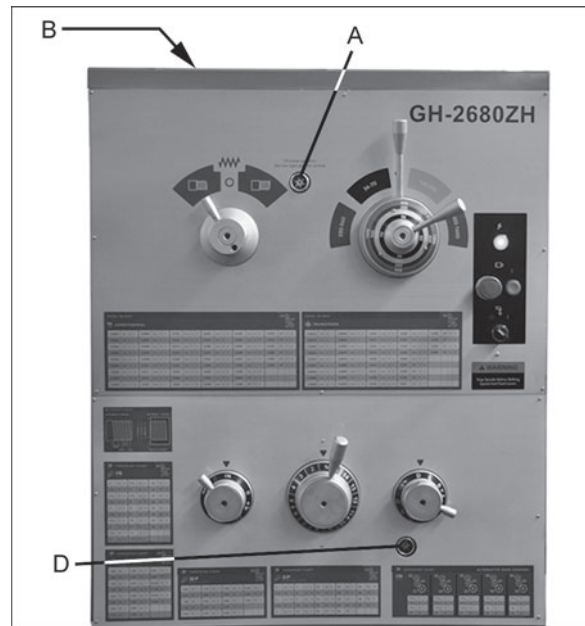
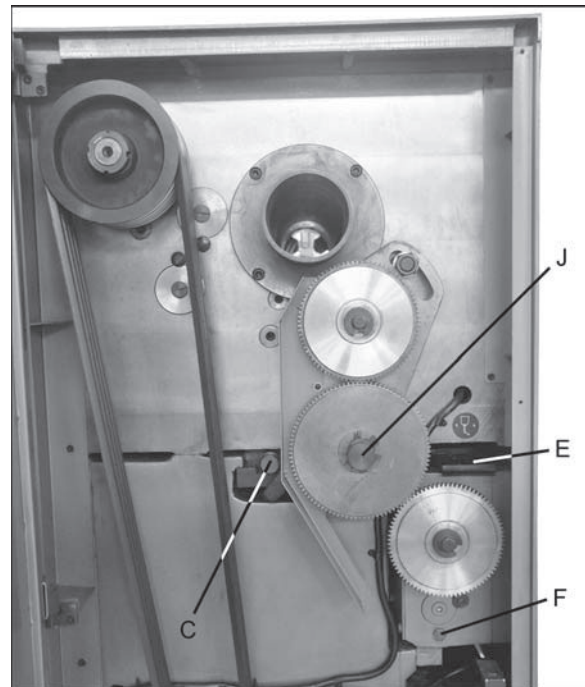

Figure 8 – Headstock lubrication
Figure 9 – Lubrication points
1. **Headstock** – Oil must be up to indicator mark in oil sight glass at the *rear* of the headstock. [NOTE: The sight glass on the *front* of the headstock (A, Figure 8) verifies operation of the oil pump, the one at *rear* of headstock (not shown) indicates oil level]. Top off with SAE 20W oil. Fill by removing the rubber mat and unscrewing the plug (B) on top of the headstock.
2. To drain the headstock, remove the nut on the drain pipe (C, figure 9). Drain oil completely and clean out all metal shavings, then rinse the casting case with kerosene. During the breaking-in process for the lathe, the first oil change should be after 10 days; the second after 20 days. Then change the oil in the headstock every three months.
4. **Change Gear Axle** – Periodically remove end plug (J, Figure 9) and press #2 lithium grease into the axle to lubricate the gear axle and sleeve. Coat all gears with non-slinging grease.
5. **Gearbox** – Oil must be up to indicator mark in oil sight glass (D, Figure 8). Top off with SAE 20W oil. To add oil to the gearbox, pour it into the pan (E, Figure 9). To drain, remove drain plug (F, Figure 9). Drain oil completely and refill after the first three months of operation. Then change oil in the gearbox every six months.
14. **Travel Setting Rod** – Periodically insert SAE 20W oil into the ball oiler on each end of the rod (Figure 9).